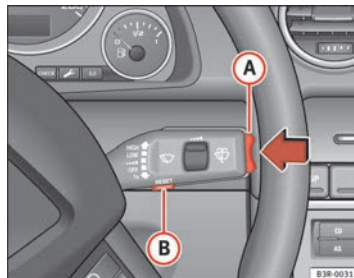

Fig. 63 Windscreen wiper lever: Reset button and rocker switch
Functions of the **Reset** (B) $\Rightarrow$ fig. 63 and the **rocker switch** (A):